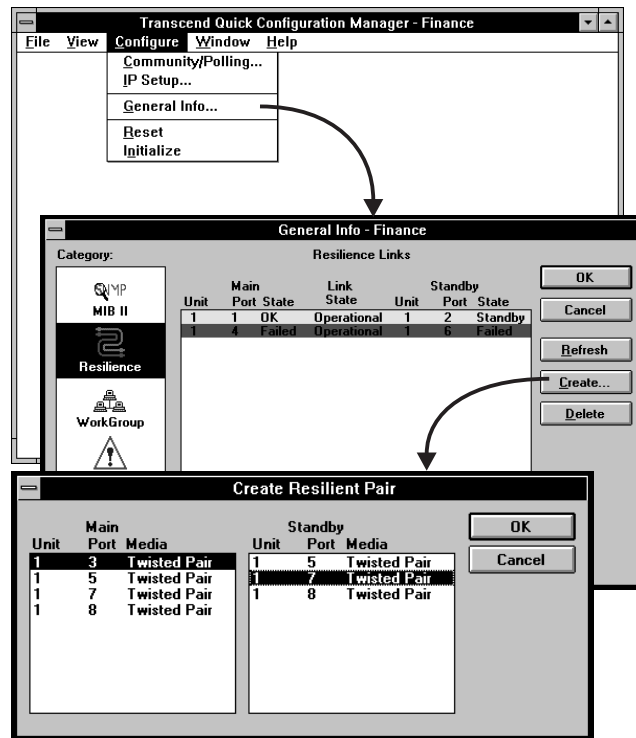

Figure 4-16 Create Resilient Pair Dialog Box
- 4 In the Resilience Links panel, click on *Create*. Quick Config Manager displays the Create Resilient Pair dialog box, as shown in Figure 4-16.